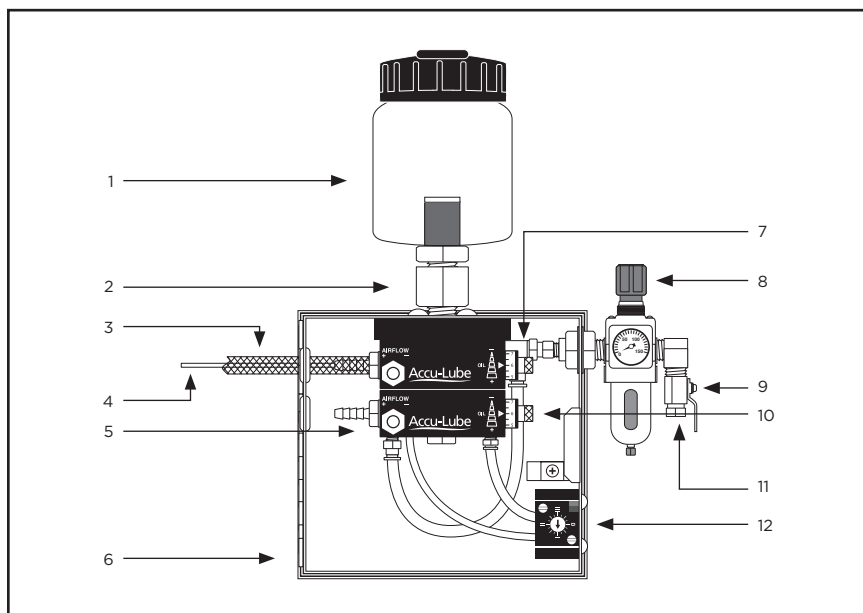

Fig. 1 - Two Nozzle Aluminum Pump Applicator with Manual Control
2. **Reservoir Extension:** Connects the liquid reservoir (Fig. 1 #1) to the applicator.
4. **Lubricant Line:** Capillary tube that runs inside the braided air hose. [*Hose Assembly: braided air hose (Fig. 1 #3) & lubricant line (Fig. 1 #4).*]
1. Remove the plastic shipping plug from the reservoir extension (**Fig. 1 #2**) on the top of the applicator and clean any debris from the threads and opening.
2. Wrap the threads on the bottom of the reservoir (**Fig. 1 #1**) with Teflon tape (not included) and attach to the reservoir extension with $\frac{3}{4}$ " wrench.
3. Fill the reservoir (**Fig.1 #1**) with lubricant. Refer to warranty information on page 14.
5. Make sure the applicator is off, then the attach air supply to the air inlet (**Fig. 1 #11**). **NOTE:** If excessive oil, mist, or dirt is present in the air supply an optional coalescing filter is highly recommended (see pages 12 - 13 for parts information).
3. Adjust the airflow valve (**Fig. 1 #5**) on each pump, turn counterclockwise to increase air flow and clockwise to decrease the flow. The airflow should be just high enough to move the lubricant to the cutting edge.
4. Set the frequency generator (**Fig. 1 #12**), see instructions on page 10.
5. Set the lubricant control (**Fig. 1 #7**), see instructions on pages 8 - 9.